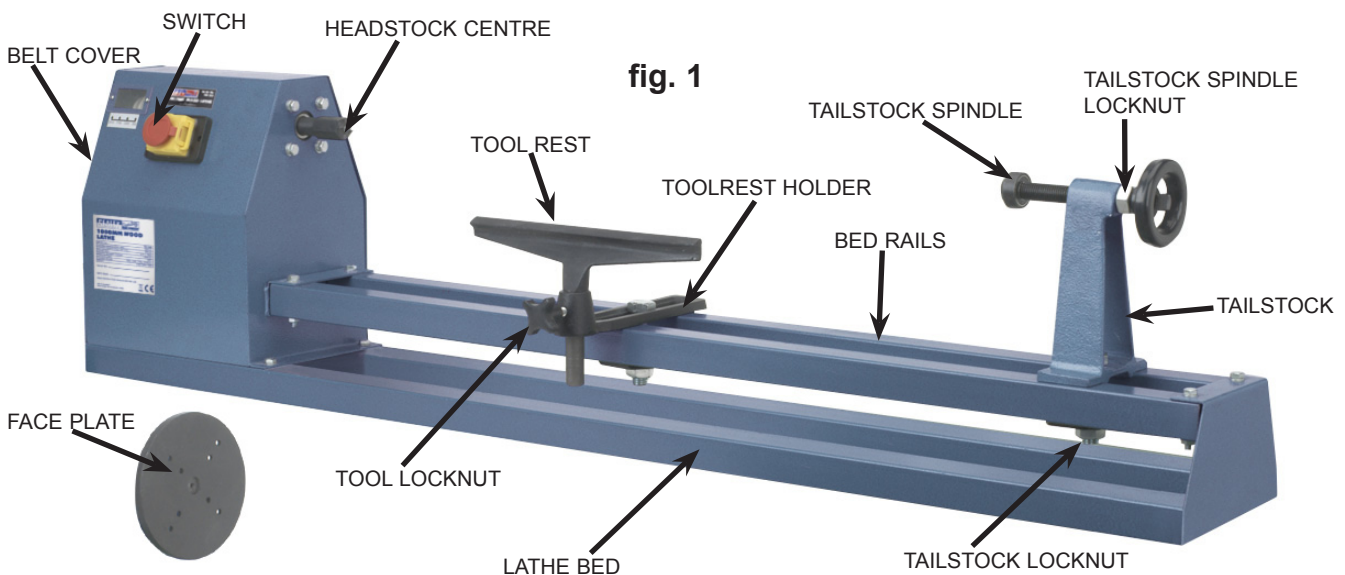

fig. 1
- 3.1.2. Screw the headstock centre onto the spindle (Fig.1). Do not overtighten.
### 3.2. Tailstock (fig. 1 )
- 3.2.2. Loosen the tailstock locknut (Fig. 1), reposition the tailstock along the lathe bed and retighten the locknut.